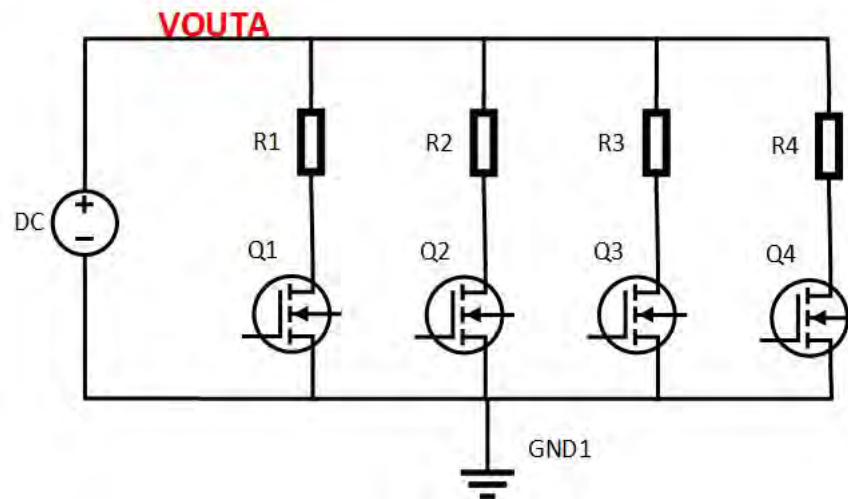

Figure 4-4. On Board Load transient
EVM board has option of load transient test. There are 4 parallel loads connected for RAILA as shown in Figure 4-4. Each load can be turned-ON/OFF independently with SWITCH S3. Placed Jumper J14 in order to provide drive signal from onboard 555 timer (~1.2 kHz, 8% Duty cycle) or inject drive signal in TP13 from signal generator. The resistor (0.2ohm) package is 2502 and maximum power dissipation 2W. so External signal duty cycle should not to exceed 20% duty cycle as thermal rating. Each load resistance(R1) is 11.7mohm and Switch RDS(ON) is 2mohm. Total resistance per load bank is 13.7mohm. The total resistance value with all 4 load bank is ~3.8mohm with including board parasitics. so if RAILA output voltage is 0.88V, load step is 230A(0.88/3.8m)